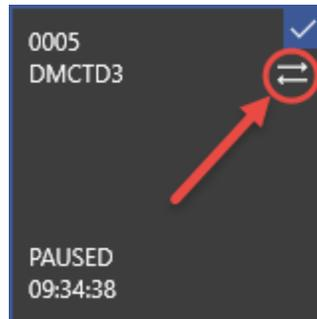

FIGURE 5 SUCCESSFUL RAD TAG PAIRING
11. The DMC 2000TD Tile chain links change to double arrows (see Figure 5)